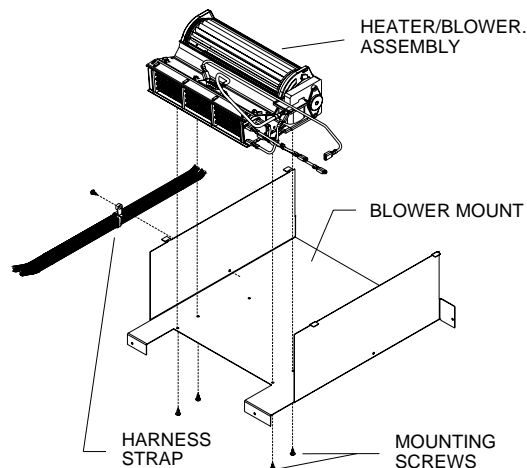

Figure 21 - Mounting Heater/Blower
4. Let the control cover hang down off the harnesses. Be careful not to damage any wiring. If necessary you can unscrew the harness strap at the blower mount to gain slack. See **Figure 21**.
8. Align blower assembly over hole pattern on blower mount and attach with 4 pan head screws provided. See **Figures 21 or 22**.